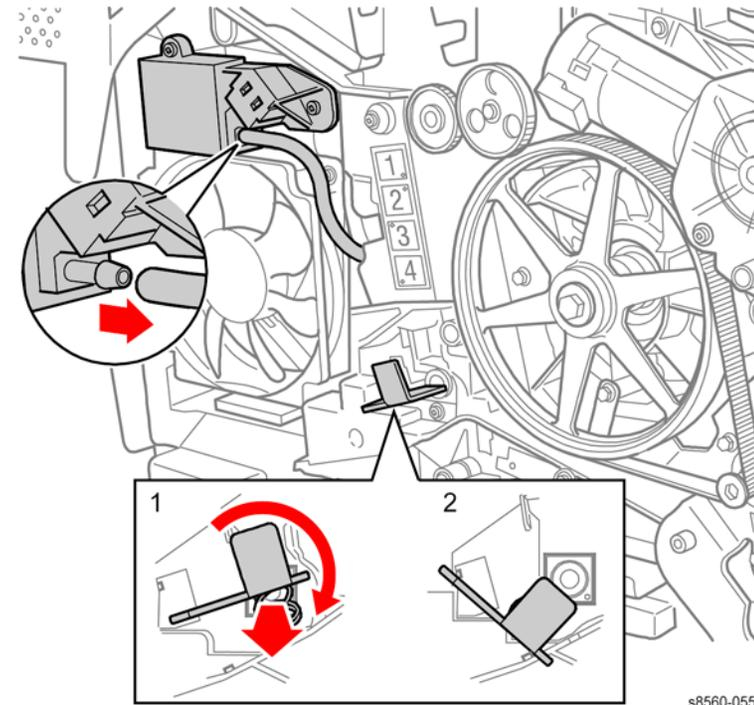

Figure 4 X-Axis Bias Spring Hook
10. Pull the X-Axis Bias Spring and Hook out slightly, and then rotate downward to allow it to rest in detents provided on the frame. See Figure 4.